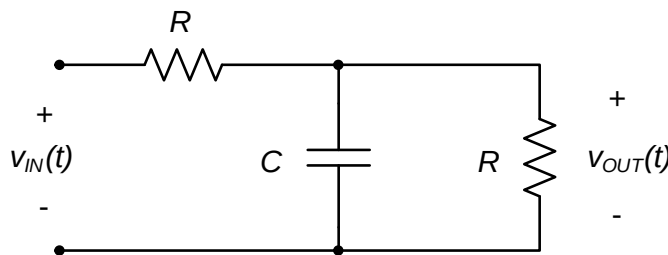

Figure 1. RC circuit.
This lab assignment concerns the circuit shown in Figure 1. The overall behavior in response to sinusoidal inputs is relatively simple to understand. At very low frequencies, the capacitor has infinite impedance, the circuit becomes a simple voltage divider, and the output voltage phasor amplitude is simply half of the input voltage amplitude:
Determine the magnitude response of the circuit shown in Figure 1. If $R = 1\text{k}\Omega$ and $C = 100\text{nF}$, calculate the magnitude response (the ratio of the amplitude of the output sinusoid to the input sinusoid) of the circuit at frequencies of 500Hz, 1000Hz, and 10kHz. Do your magnitude responses at these frequencies agree with the expectations of the circuit response as expressed by equations (1) and (2)?
- a. Construct the circuit of Figure 1, using $R = 1k\Omega$ and $C = 100nF$.